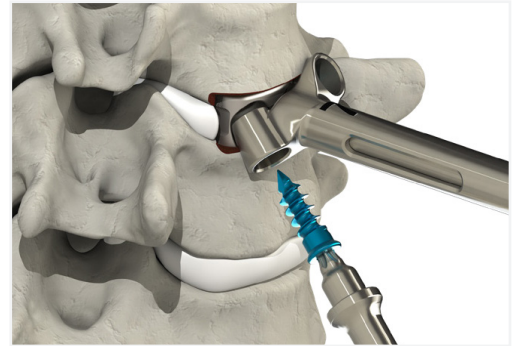

Figure 11
- ▶ Insert the screw through the Guide Hole on the Guided Inserter into the implant (Fig 11). Drive the screw until it is fully seated in the implant. Repeat this step for both screws.